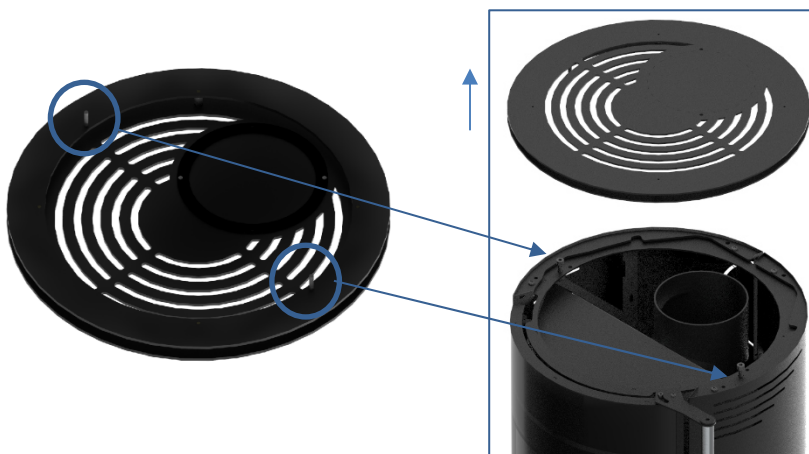

Figure 15 - Disassemble the worktop in the equipment
- 1- Remove the top, just lift it up, as shown in Figure 15.